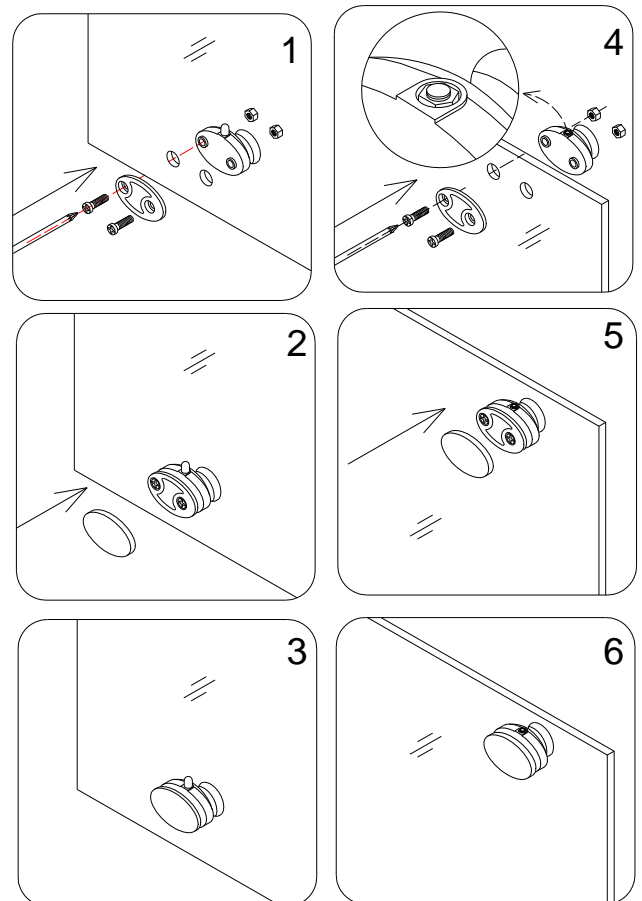

Fig. 12
**NOTE:** Glass Door (04) may come with the Wheel assemblies (17) preinstalled. If not, please refer to (Fig. 12) for detailed installation.
12. Fasten the top and the bottom **Wheel assemblies (17)** to the **Glass door (04)**. The top wheels can adjust the door level with the adjustable bolt and lock nut. The bottom wheel has a press button to fix the wheel on to the bottom **Guide rail (03)**.
See Fig. 12 for details.